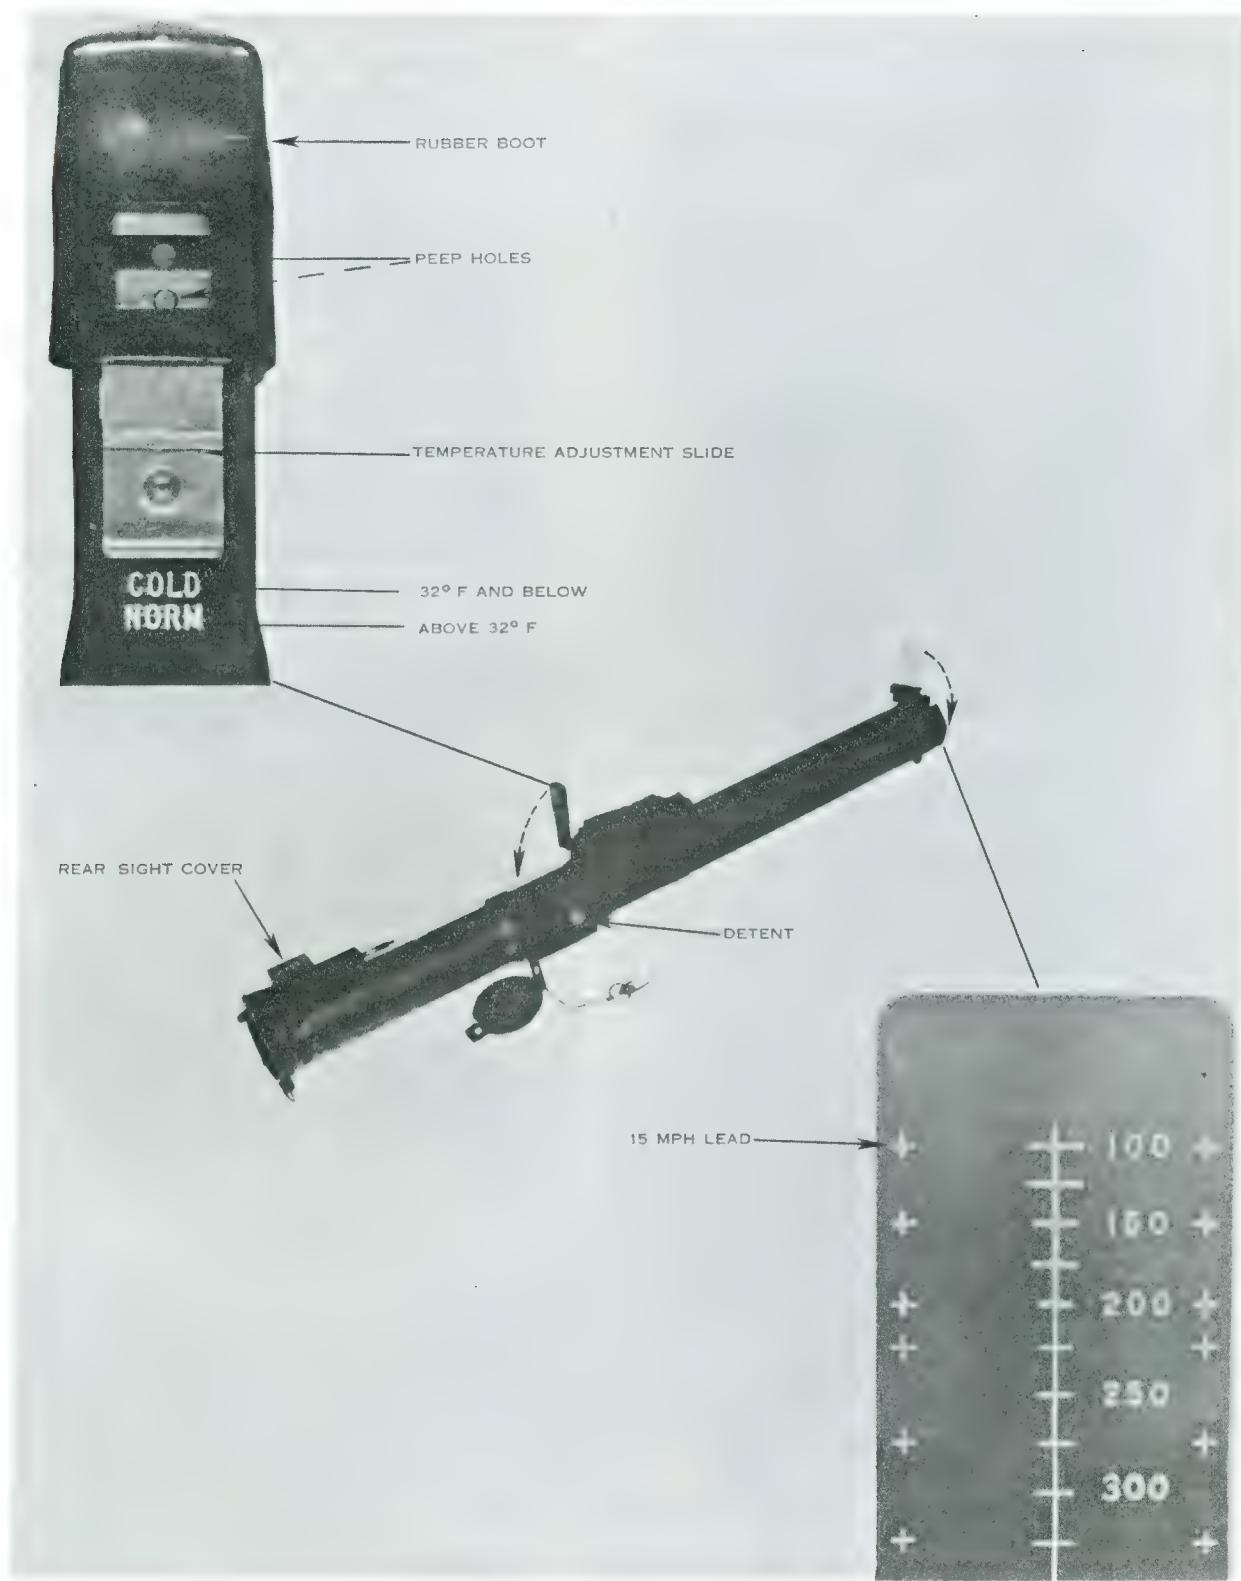

Figure 7. M72 sights.
The front sight on the M72 (fig. 7) is made of clear plastic and has a sight reticle stamped upon it. The reticle has a vertical centerline that is graduated in 25-meter increments from 100 to 325 meters. On either side of the vertical centerline are 15 mile per hour lead marks which appear at the following ranges: 100, 150, 200, 225, 275, and 325 meters. These marks are placed on the reticle to aid the gunner in tracking a moving target.
The rear sight (fig. 7) consists of two stamped metal parts and a rubber boot. The fixed portion of the sight is marked with the words COLD and
b. In the event the M72 is prepared for firing but is not fired, it may be returned to the carry position by reversing the preparation procedure. First reset the trigger safety and then remove the launcher from the shoulder. Replace the rear safety pin. Depress the detent (fig. 7) and partially collapse the launcher. Fold the rear sight down so that it
a. *Rear Sight.* The rear sight on the M72 is basically a simple peepsight. Before sighting, the gunner should inspect the sight to insure the slide is in the correct position or setting for the existing conditions of temperature (fig. 7). The gunner sights through the rear sight by placing his eye on line with the peephole and sighting toward the front sight reticle.